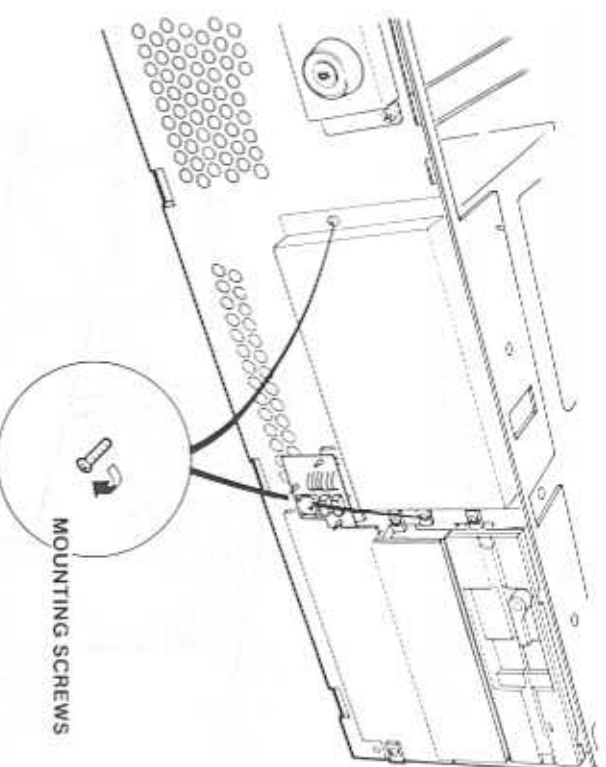

Figure 11-18. Securing the Drive
9. Replace the cover plate and screws, and secure the drive in the chassis (Figure 11-18).